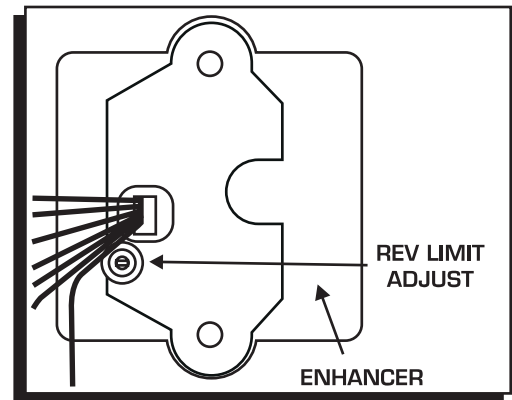

Figure 2 The Adjustable RPM Potentiometer.
1. Using an 8mm wrench, loosen the lock-down nut on the potentiometer shaft by turning it counterclockwise (Figure 2).